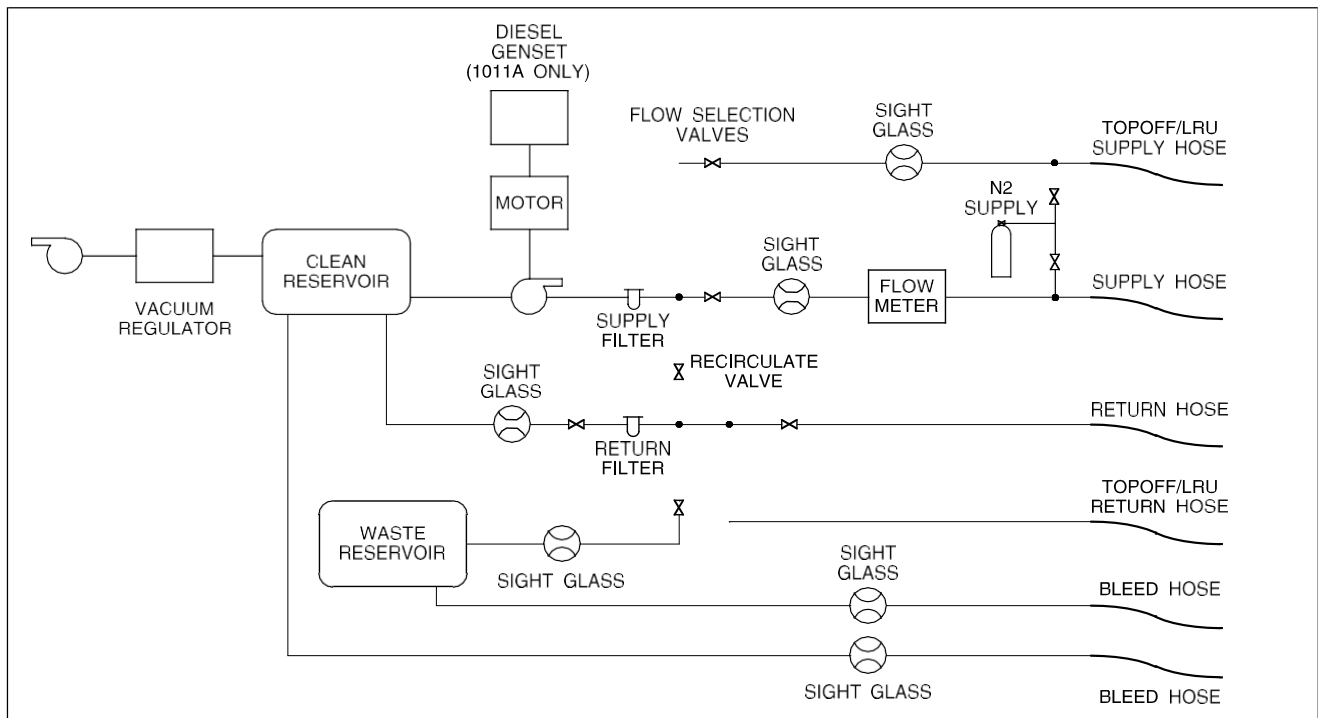

FIGURE 2. CSC Simplified Schematic
3.3 THEORY OF OPERATION (FIGURE 2)